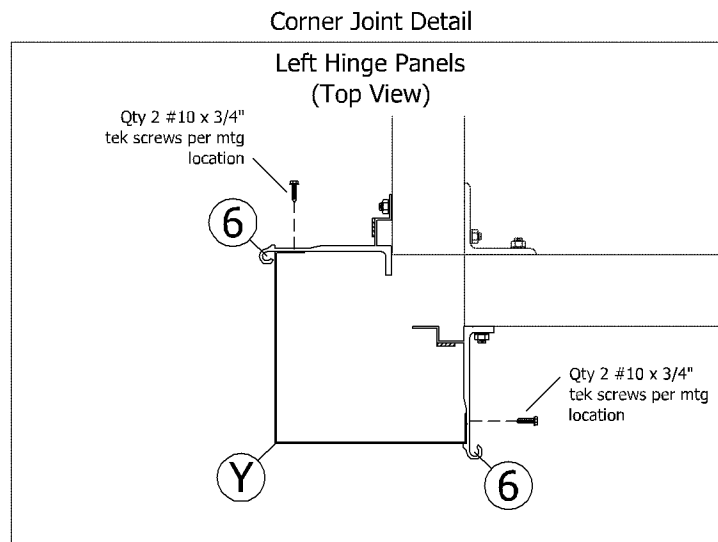

FIGURE 1-A
1. Mount the corner caps "Y" (if applicable) to the hinges and end brackets (see Figure 1-A). Use a plumb bob or carpenter's level to ensure that all hinges and end brackets are aligned vertically. Loosen nuts and make any adjustments as necessary to create a square and level corner. Each part Hinge A "6" has a groove (vertical) for properly locating the tek screws. Use two #10 x 3/4" long tek screws to fasten the corner cap "Y" to each Hinge A "6".